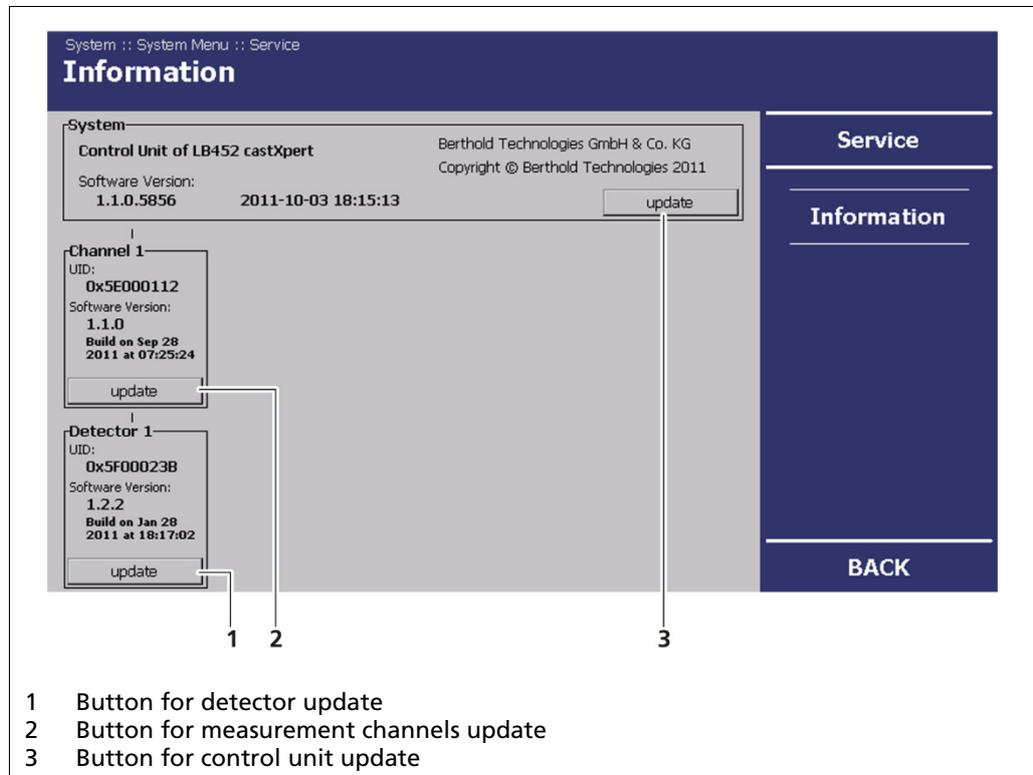

Fig. 42 System menu, Service – Information
3. Click on **<update>** (Fig. 42, Item 3), to carry out a control unit update.
2. Click on **<Update>** (Fig. 42, Item 2), to carry out a measurement channel.
2. Click on **<Update>** (Fig. 42, Item 1), to carry out the detector update.